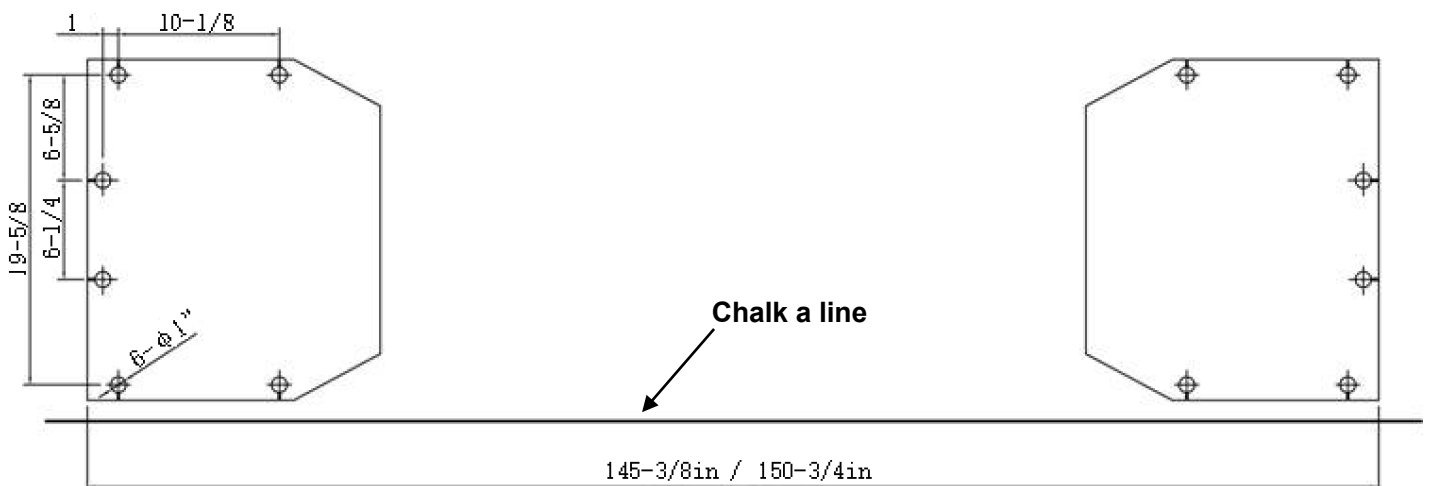

Fig. 5
**B. Use a carpenter's chalk line to establish installation layout of baseplate (See Fig. 5).**